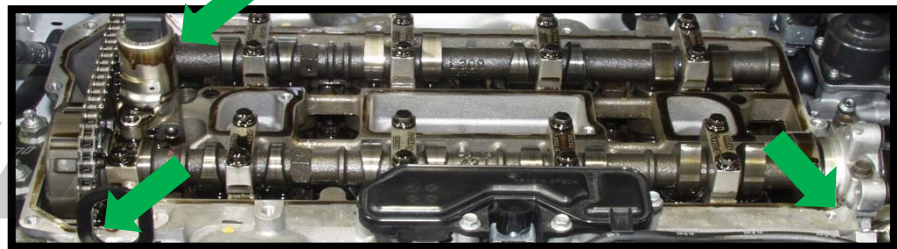

Figure 7c
- e) Apply silicone sealant to the cracks where the timing cover mates to the head, and where the #6 intake bearing cap meets the head (green arrows in Figure 7c).